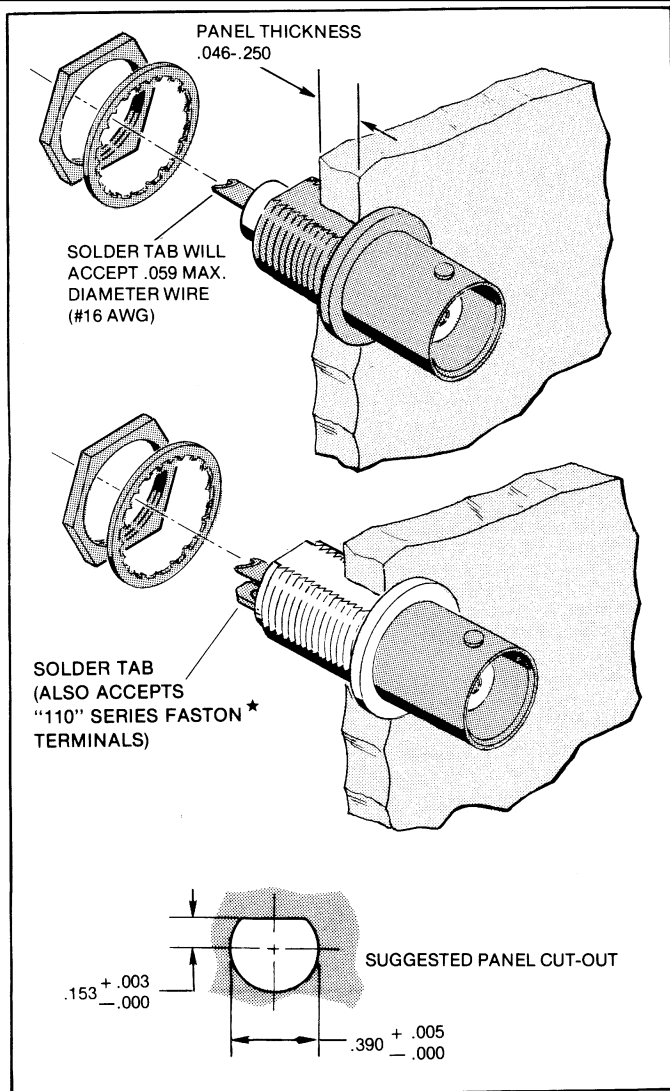

Figure 2
- (a) First determine mounting requirements; panel cut out dimensions are shown in Figure 2.